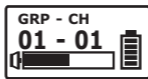

Fig. 6
3. GRP-CH: Display Group and Channel Information, Fig. 6.
- (A) Press MODE button to access GRP-CH to show current group and channel. Blinking will stop after 30 seconds.
- (B) Group and Channel are synced from receiver and cannot be changed, Fig. 6.